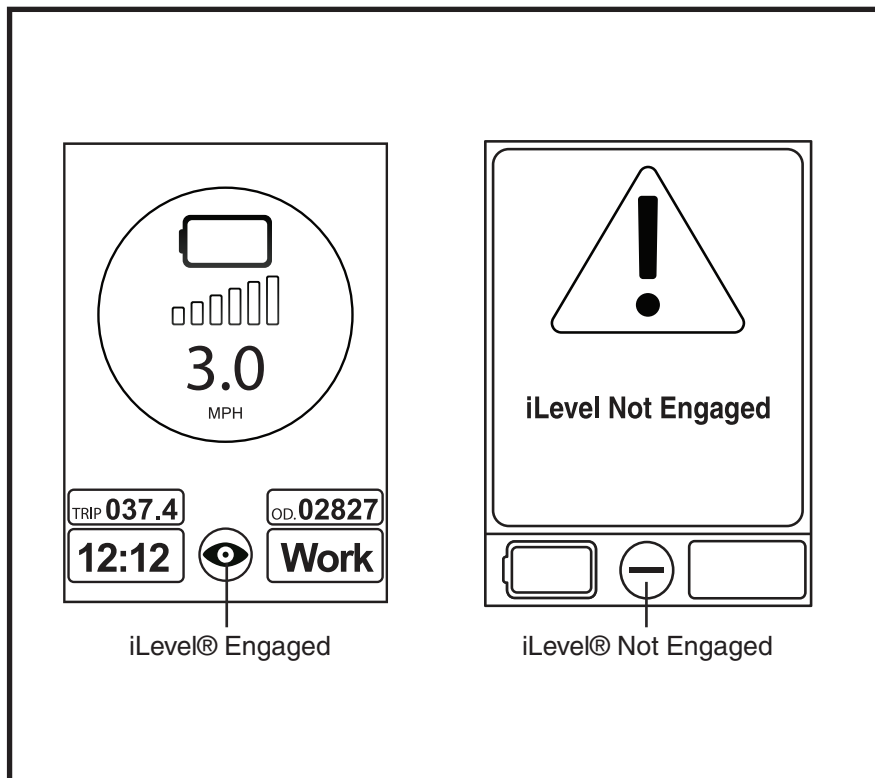

Figure 3. Q-Logic 2 Controller Indicators
**NOTE: The iLevel® feature is automatically engaged when the power elevating seat is activated and the iLevel® indicator is displayed on your controller. See figure 3.**